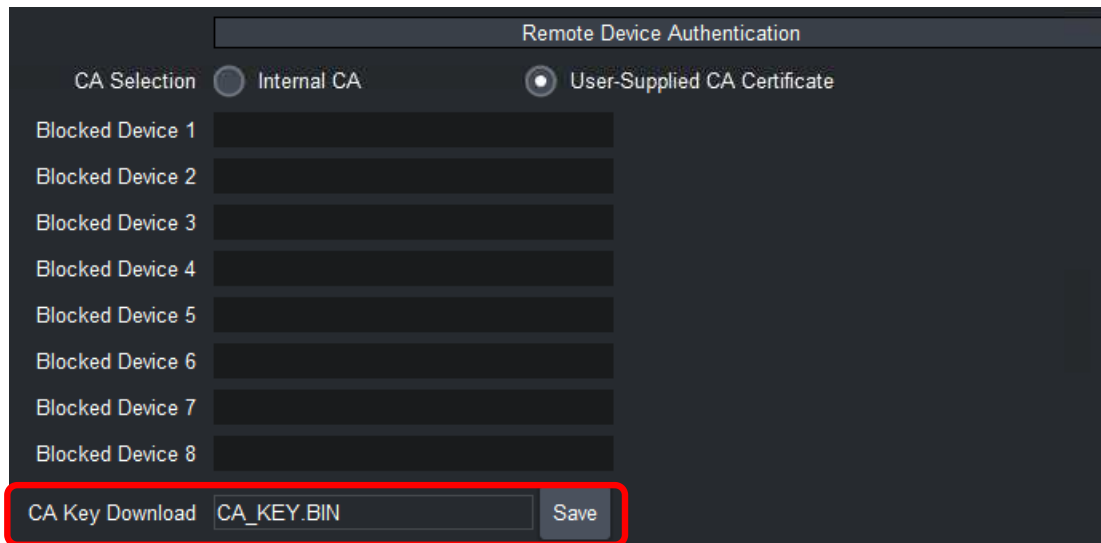

Figure 11: Downloading the device's internal CA key
Step 1 indicates that the CA Key for the device selected as CA must be downloaded for backup purposes. If that device is ever damaged or lost, the key can be installed on an alternate device. The CA Key can be downloaded in the DashBoard **Authentication** tab, as shown in Figure 11, by clicking on the **Save** button. Note the following: